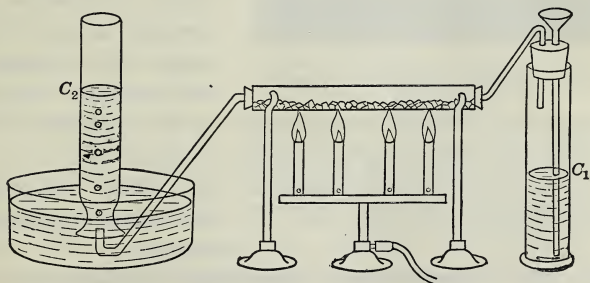

Fig. 9. Apparatus for determining the composition of air by volume.
can be obtained by passing a measured volume of air through a column of heated copper clippings, which removes the oxygen. The nitrogen, which passes through the copper without being absorbed, is collected over water in a graduated vessel and measured. The apparatus is shown in Figure 9. C_1 is a grad-
3. In the experiment shown in Figure 9 the copper turns black. Why? In which end of the tube would the blackening first appear?